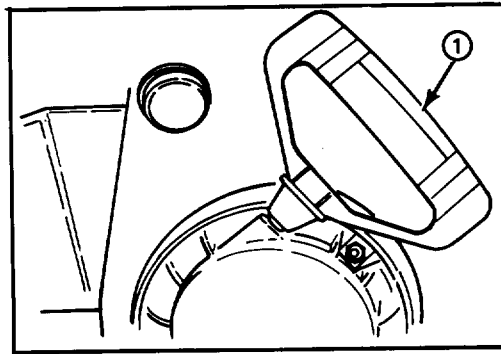

Figure 13
Recoil Starter (Fig. 13) — Recoil starter is on back side of engine. Pull recoil starter to start engine.
6. Grasp recoil starter handle (Fig. 13) and pull it out slowly until positive engagement results: then pull vigorously to start the engine. Keep firm grip on starter handle and return the rope slowly.